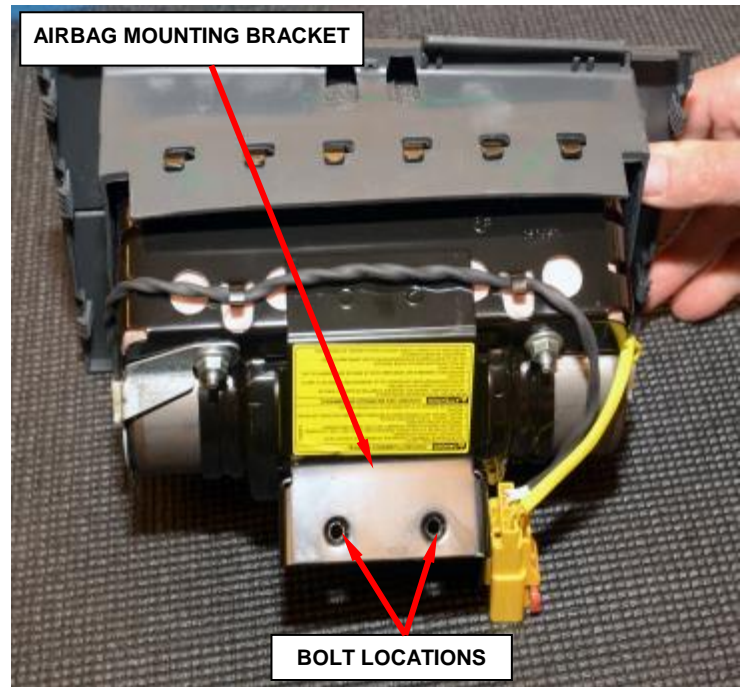

Figure 90 – Passenger Airbag Mounting Bracket
4. Reach up into the instrument panel glove box opening and through the access holes to remove and save the two bolts that secure the passenger airbag bracket to the instrument panel support structure (Figure 90) (Figure 91).